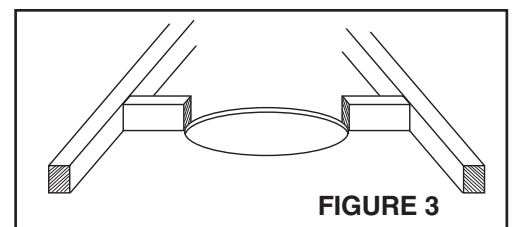

FIGURE 3
Secure side hanger brackets and ends of adjustable hanger bar to joists with screws or nails. If joist spacing is greater than 16" O.C., construct framing to support sides of housing, (Refer to Figure 3). Position housing against joists and secure with wood screws through keyhole slots in housing.
4. **Refer to Figure 3.** Secure short pieces of 1" x 3" lumber ($\frac{3}{4}$ " nominal) to joists on either side of opening. Leave approximately $\frac{1}{2}$ " between top of ceiling so that flange of heater housing can slide under spacers. If joist spacing is greater than 16" O.C., cut spacers of 2" x 4" lumber to fit between housing and joists.